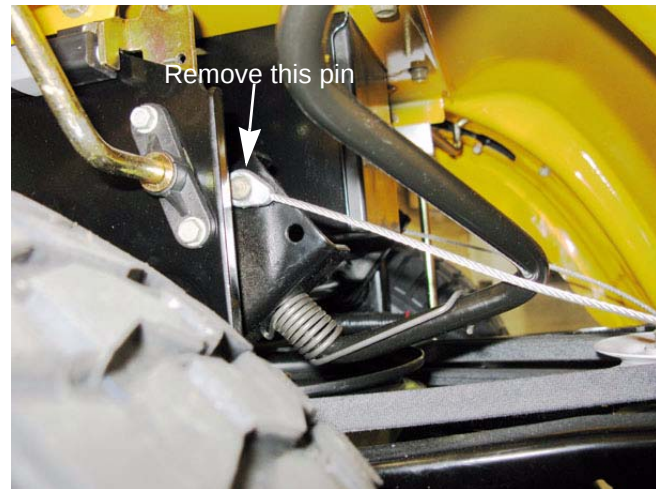

Figure 8.39
5. Remove the hair pin clip that secures the lift cable to the lift shaft then slide the clevis pin out of the cable. See Figure 8.39.